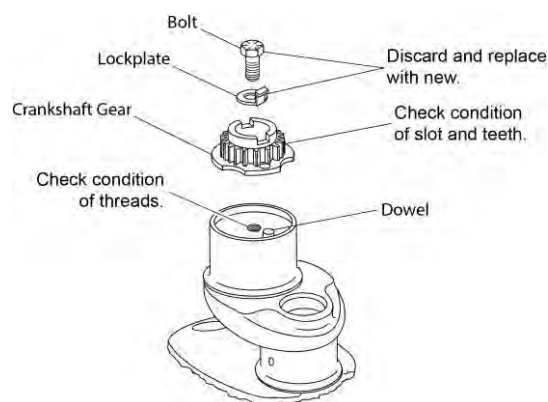

Figure 20
- (1) Bend the tabs of the crankshaft gear bolt lockplate down, flat against the crankshaft gear.
- (2) Remove the crankshaft gear bolt, lockplate, and crankshaft gear from the crankshaft (Figure 20). Discard the bolt and the lockplate.
NOTICE: Any time the crankshaft gear bolt (Figure 20) is removed, discard the bolt and replace it with a new bolt for the applicable crankshaft gear.
Do not remove the alignment dowel (Figure 20) from the end of the crankshaft unless it is damaged. Replace a damaged alignment dowel per the “Alignment Dowel Replacement” procedure in this chapter.